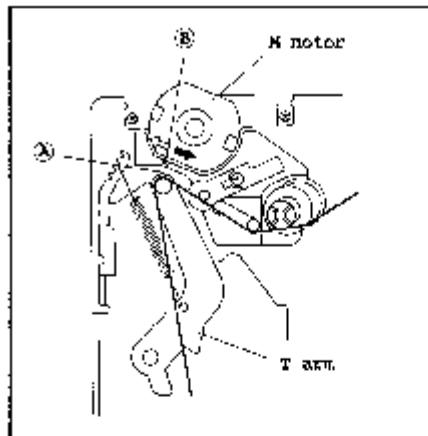

Fig. II-4
### 3. Adjustment of Tension Regulator Position (Figs. II -4, II -5)
- (1) Referring to I-2 (P. 21), run the tape without the cassette compartment.
- (2) Confirm that ④ in the Fig. II-4 is within the width of groove ⑩.
- (3) If it is not within the width, take out the tape once, and loosen the screw securing the T belt. Then, adjust the position referring to the direction of arrows in the Fig. II-4 and II-5.